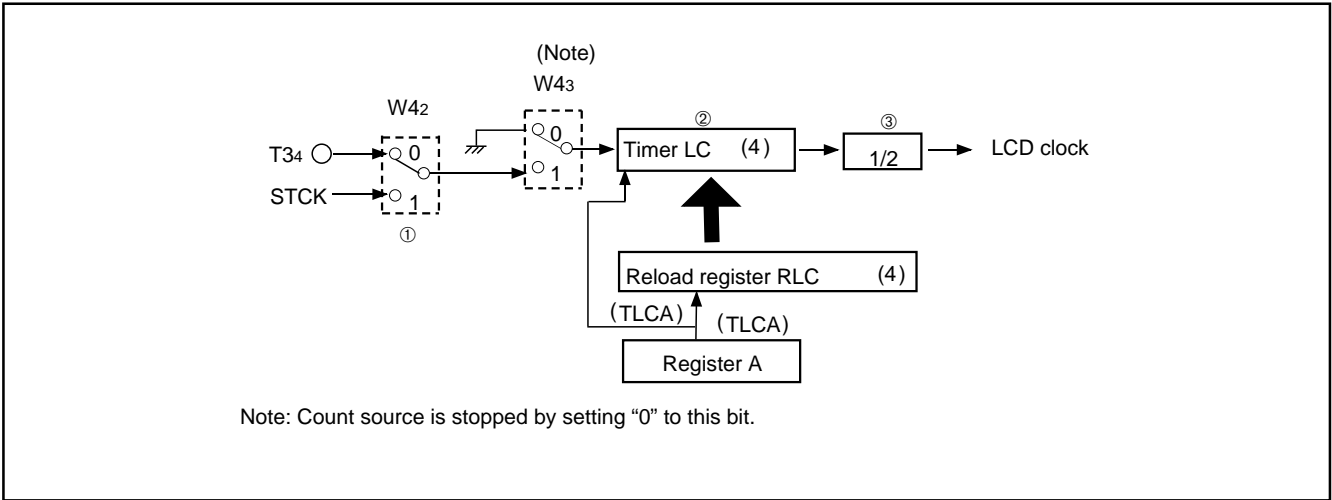

Fig. 30 LCD clock control circuit structure
(2) LCD clock control
The LCD clock is determined by the timer LC count source selection bit (W42), timer LC control bit (W43), and timer LC. Accordingly, the frequency (F) of the LCD clock is obtained by the following formula. Numbers (① to ③) shown below the formula correspond to numbers in Figure 30, respectively.